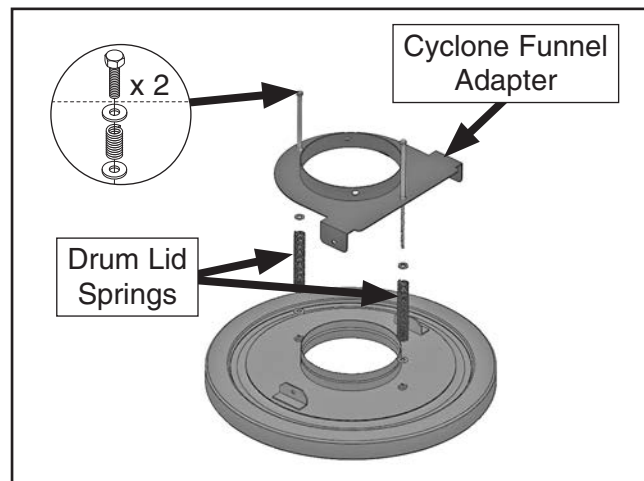

Figure 27. Installing cyclone funnel adapter.
30. Attach cyclone funnel adapter to drum lid with (2) $\frac{3}{8}$ "-16 x 11" hex bolts, (2) drum lid springs, and (4) $\frac{3}{8}$ " flat washers, as shown in **Figure 27**.